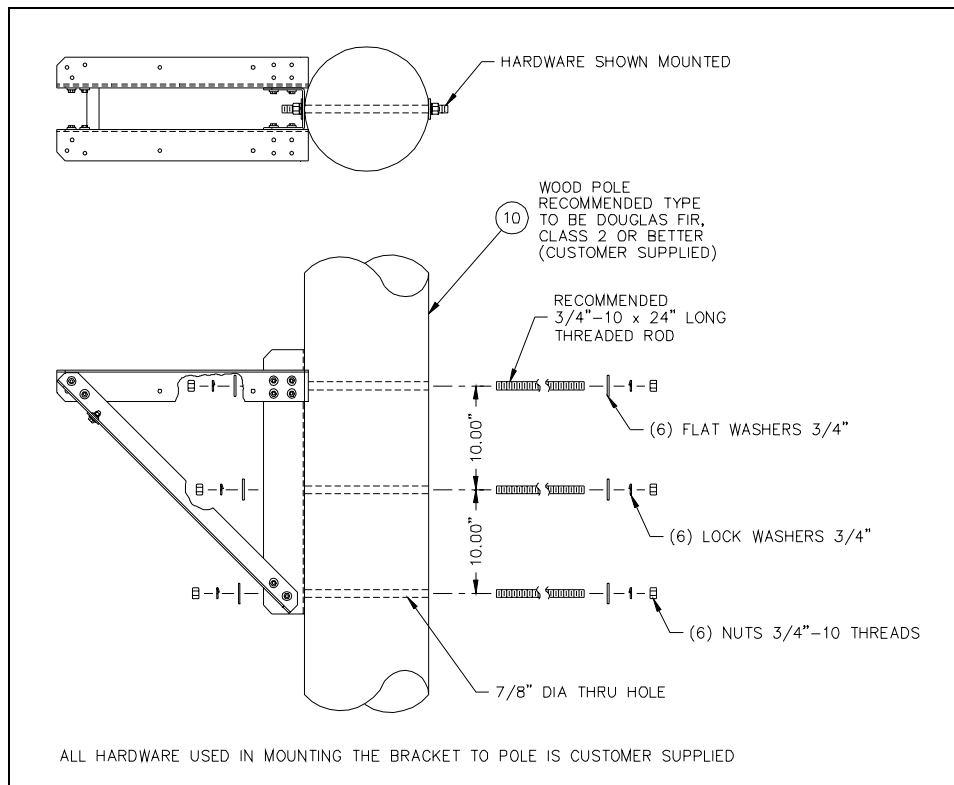

Figure 2.
4. Attach the bracket assembly from steps 1–3 to the pole (Item 10). See Figure 2.